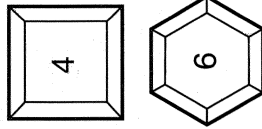

Figure 27
- For joints other than 90° see outside registration column Figure 27 for proper fence angle setting.
- For joints other than 90° see inside registration column in Figure 27 for proper fence angle setting.